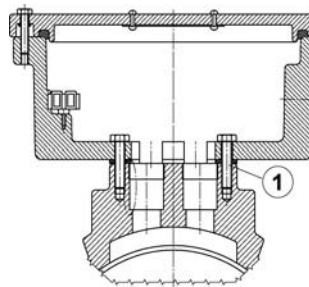
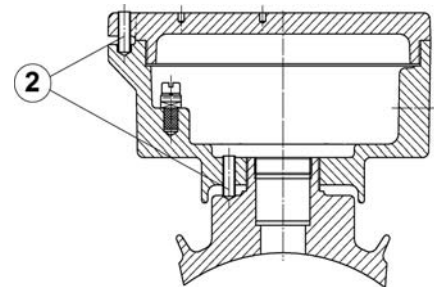

Figure 3: Terminal box with fixing screws ①
Figure 4: Terminal box with grub screw ②
Open the box by removing the screws on the cover (Figure 3: Terminal box with fixing screws ①, page 12) or, in the case of models with grub screw (Figure 4: Terminal box with grub screw ②, page 12), by turning the grub screw counter-clockwise and then unscrewing the threaded cover. Seal the terminal box again in the same way after connecting the mains.
You may only unscrew terminal boxes which are secured as shown in Figure 4 by a maximum of one turn away from the thread end stop.